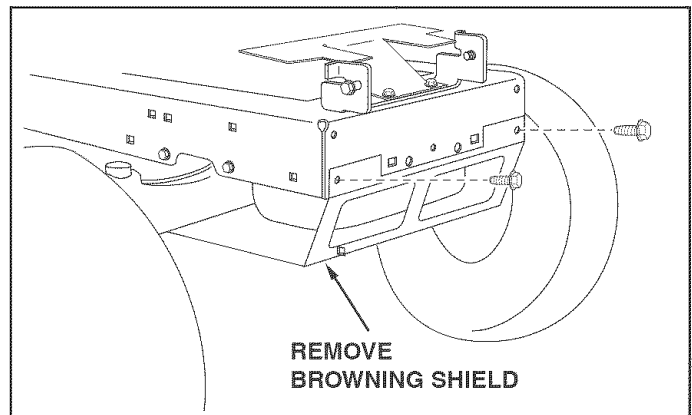
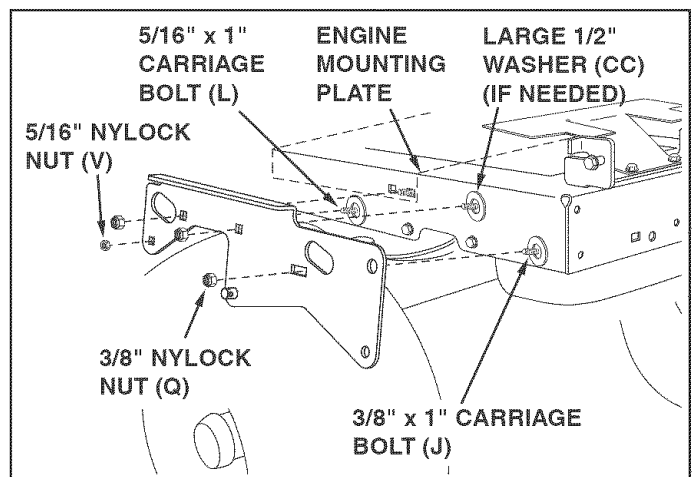

FIGURE 2
FIGURE 3
STEP 2: (SEE FIGURE 2)
STEP 3: (SEE FIGURE 3)
- Fasten the R.H. side plate (bend facing out) to the front three holes indicated in the tractor frame. Use three 3/8" x 1" carriage bolts (J) and three 3/8" nylock nuts (Q). Fasten the rear of the side plate to the frame using a 5/16" x 1" carriage bolt (L) and a 5/16" nylock nut (V). If there is an engine mounting plate (shown with dotted lines) that prevents the side plate from resting flat against the tractor frame, use three large 1/2" washers (CC) as shims between the side plate and the frame. Tighten all bolts. Repeat for the L.H. side plate.
- Reinstall the browning shield removed in figure 2.